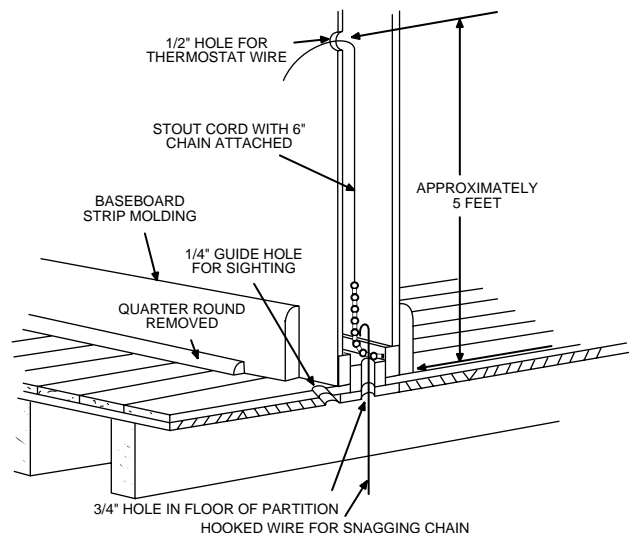

Figure 1. Routing Thermostat Wires
1. Probe for obstructions in partition before drilling 1/2" hole in wall at selected location. Take up quarter round and drill a small guide hole for sighting (see fig. 1). From basement, drill 3/4" hole in partition floor next to guide hole. In basementless buildings, drill 1/2" hole through ceiling and into partition from above (see fig. 1).